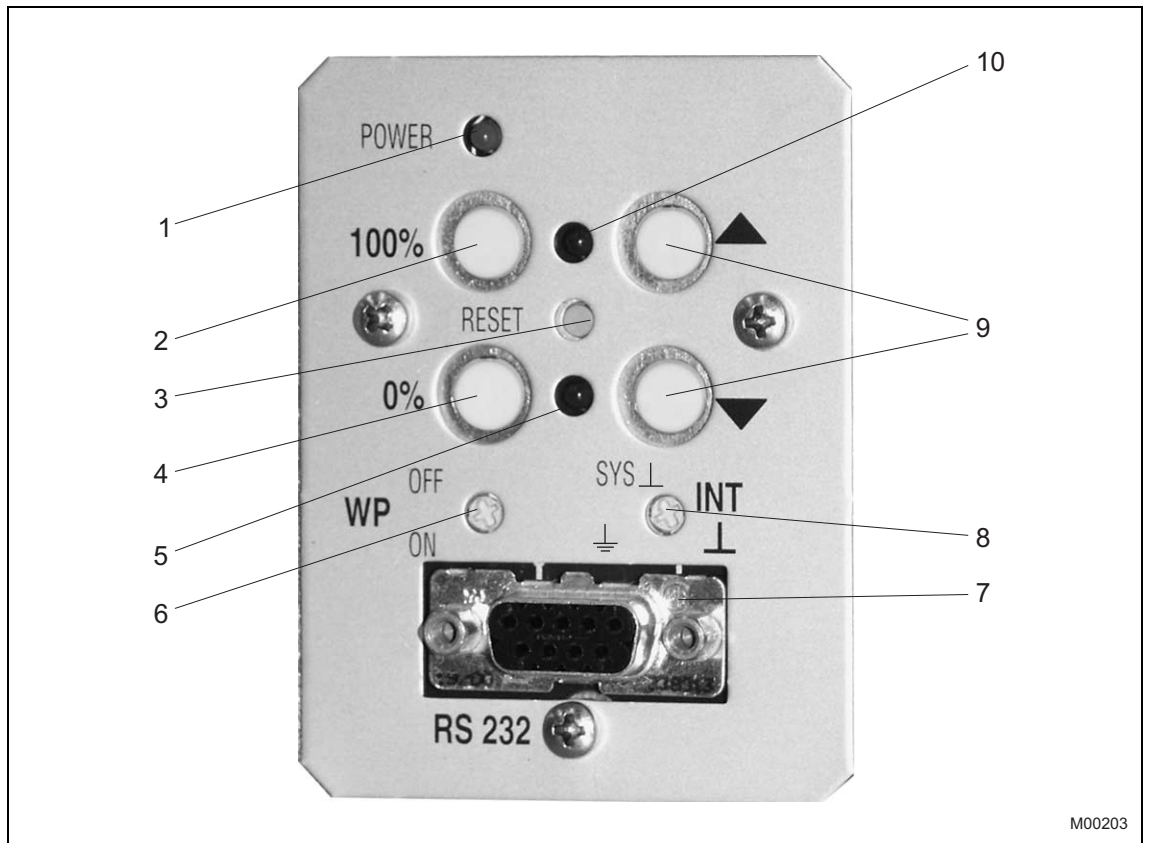

Fig. 21: Commissioning and service field
- The write-protection switch (item 6, Fig. 21) is in the OFF position.
The LEDs (item 5 and item 10, Fig. 21) flash at different rates, depending on the function that has been initiated.
- Switch the electronic unit to the "Device setup" operating mode. Press and hold down both travel buttons (9) at the same time for approx. 5 s until both LEDs (items 5 and 10 in Fig. 21) flash in sync at a rate of around 4 Hz.
The potential switch connects the reference potential either to the system or the protective ground (see page 29 Fig. 21 item 8).